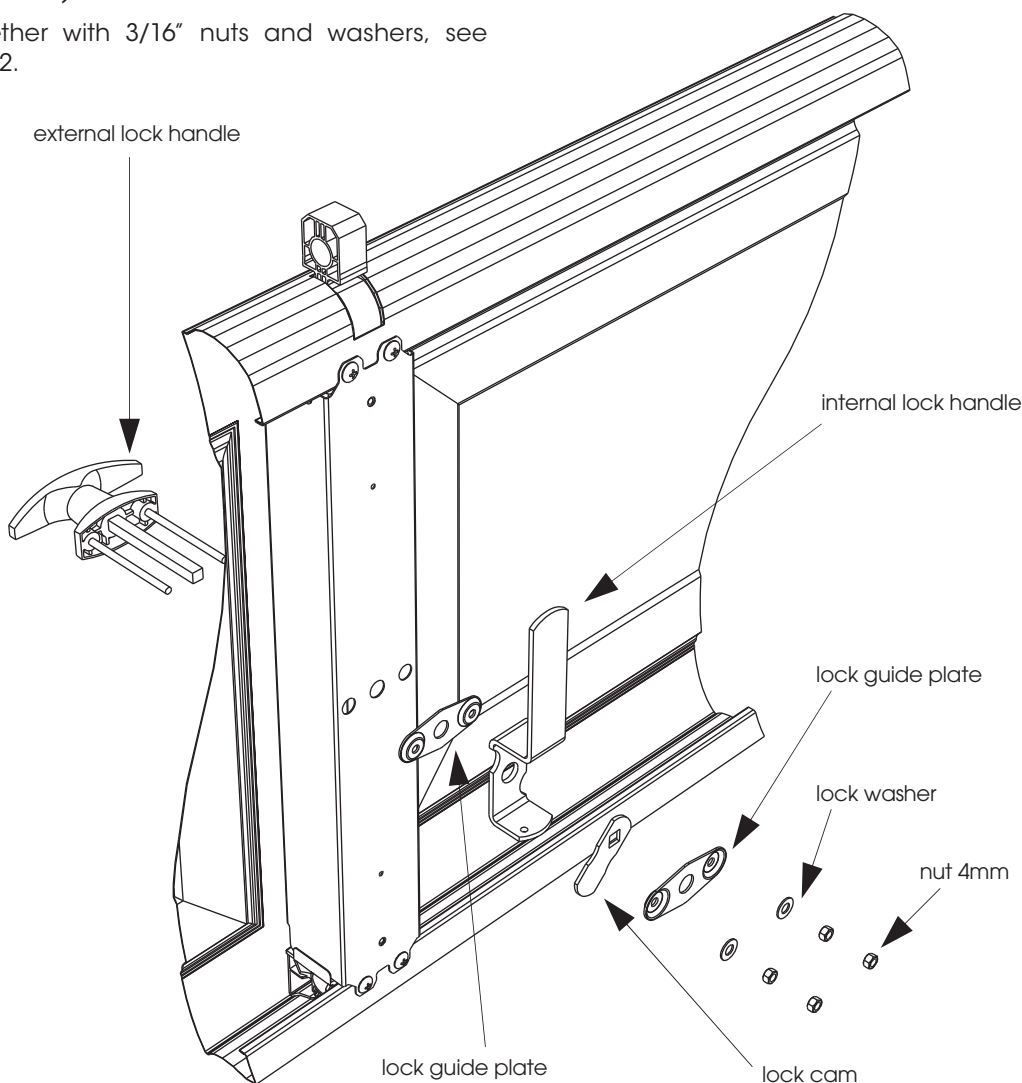

Fig: 5.4.2
- Lock together with 3/16" nuts and washers, see Figure 5.4.2.